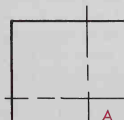
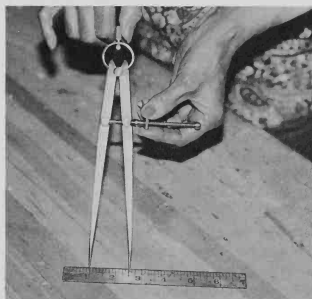

Fig. 4-15. Locating a center for laying out arcs and circles.
Fig. 4-16. Adjusting the dividers for a required radius.
9. Scribe all arcs and circles on the metal with the dividers. To locate the center for an arc, measure in the distance required and square the lines which intersect at point A, Fig. 4-15. Make a small indentation with a prick punch where the two main lines intersect at A. Use a rule to set dividers for the required radius, Fig. 4-16. Insert